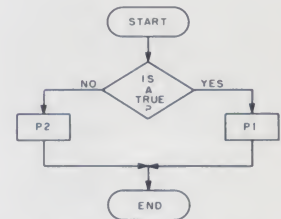

Fig. 1. Flowchart of the IF-THEN-ELSE conditional structure.
2. The IF-THEN-ELSE conditional structure, i.e., IF A THEN P1 ELSE P2 where A is a condition and P1 and P2 are programs. Fig. 1 shows the logic of this structure.